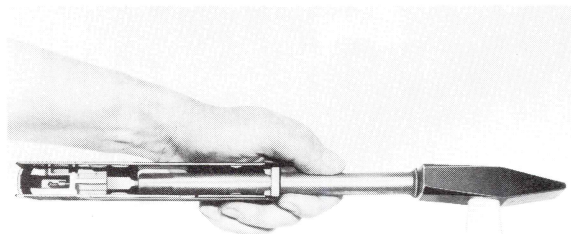

Fig. 15
- Insert the bolt head carrier into the slide, drive it slightly to the rear with a copper mandrel dia. 15 mm, and introduce the firing pin complete with compression spring (Fig. 15).